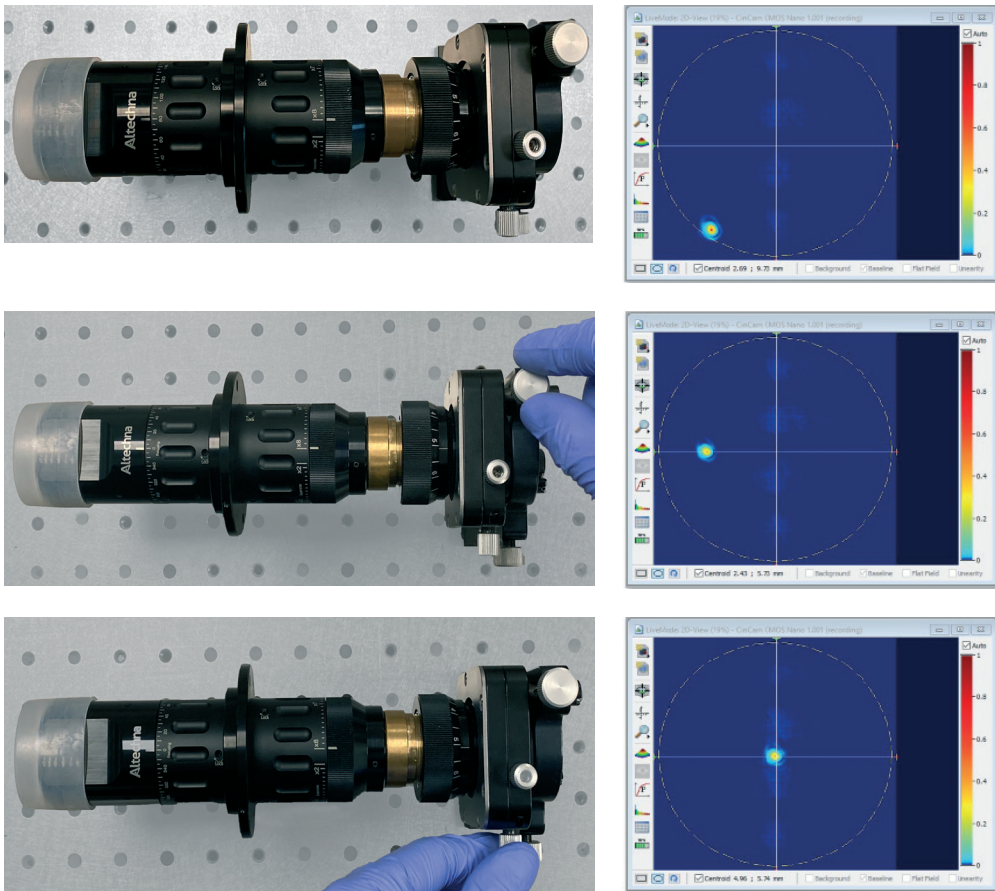

Figure 15. Centering laser beam.
4. After VBE placement into optical beam path laser beam will be decentered on the screen. By adjusting tilt (θ_x ; θ_y) get the laser beam spot back to the center of the camera where crosshair was placed for reference (fig. 15).